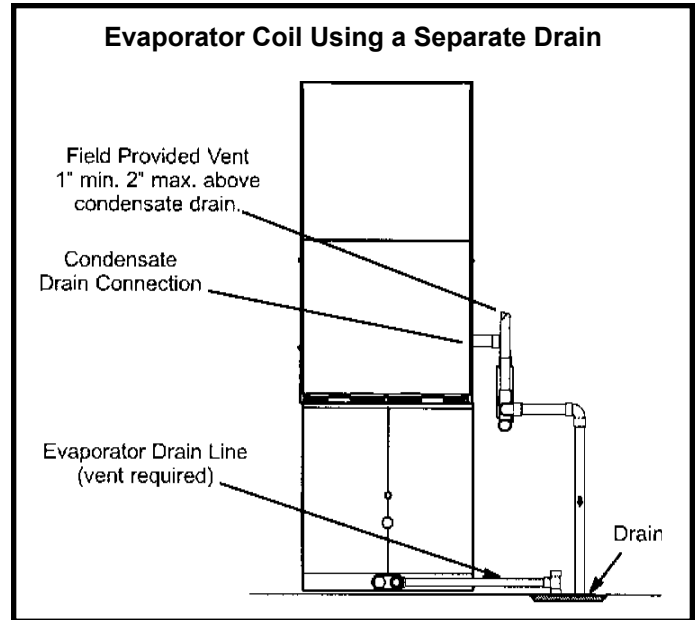
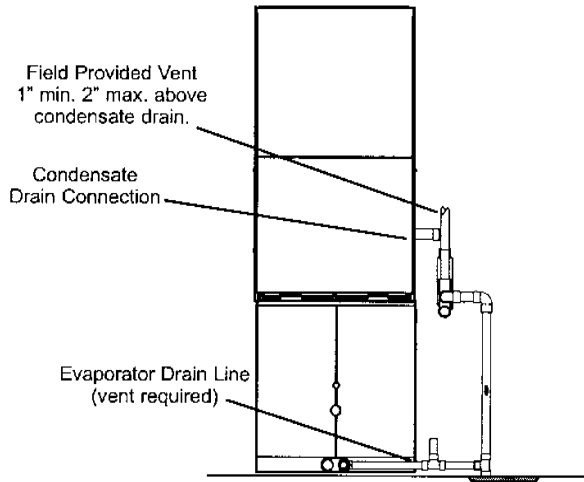

Figure 45
Figure 46
- Figure 45 shows the furnace and evaporator coil using a separate drain. If necessary, the condensate line from the furnace and evaporator coil can drain together. See Figure 46. The field provided vent must be a minimum 1" to a maximum 2" length above the condensated drain outlet connection.